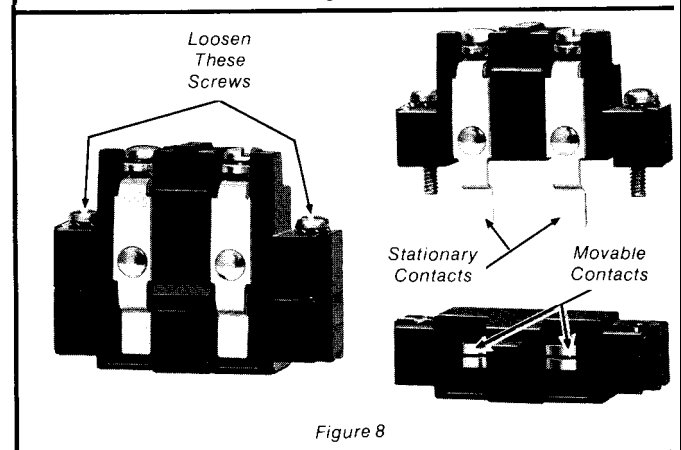

Figure 8
2. Loosen two screws holding sections of auxiliary contact together. (Refer to Figure 8).